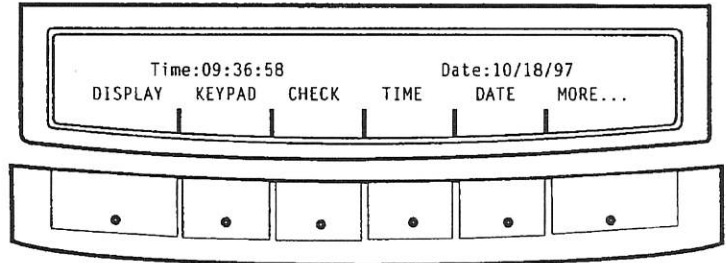

Figure 3
Access the **PC-810** setup and service functions through the **TEST** key. When you press the **TEST** key a selection of soft keys become active. You choose what operation you want to perform by pressing one of the soft keys. Figure 3 shows the message display you will see after pressing the **TEST** key. Appendix A shows a flowchart of the soft keys associated with the **TEST** key.
1. Press the **TEST** soft key. . . The soft keys in Figure 3 appear.